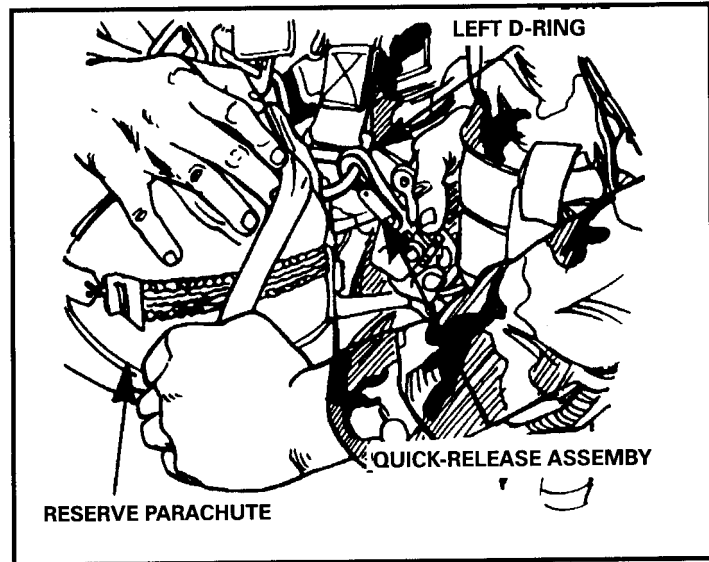

Figure 12-42. DMJP attached.
- a. The DMJP is secured to the parachutist by attaching the quick-release assembly to the parachutist's left D-ring as the outermost item (Figure 12-42).